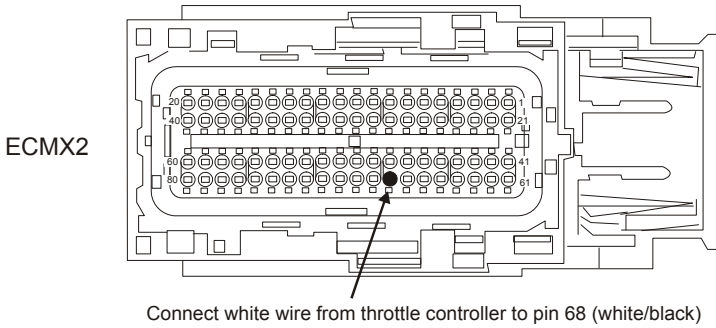

Figure 3.1
- Locate the white wire with a black stripe at pin 68 of the bottom ECM connector, ECM-X2 (Figure 3.1).